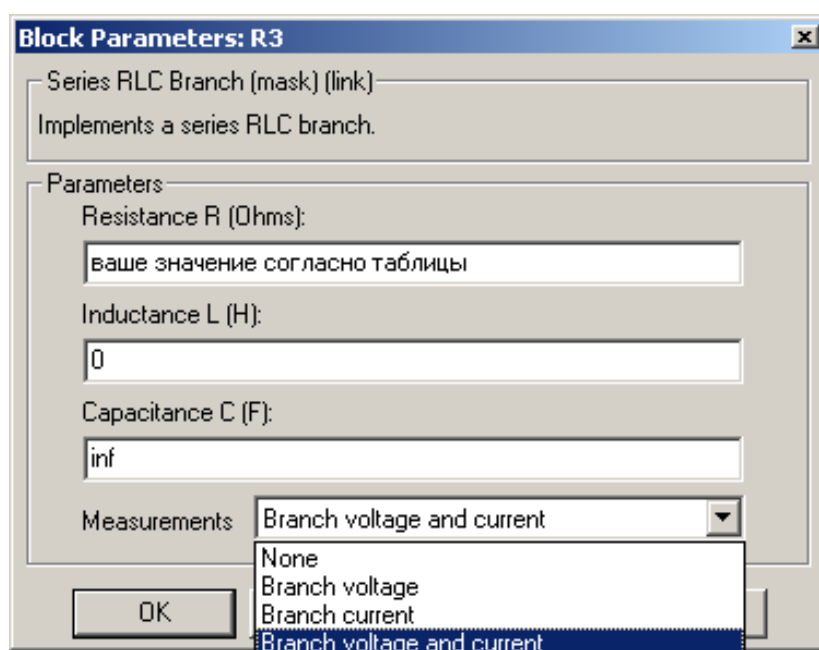

Fig. 5.4. Series RLC Branch parameters
3. In the parameters of the block "Series RLC Branch" set the following parameters (Fig.5.4):